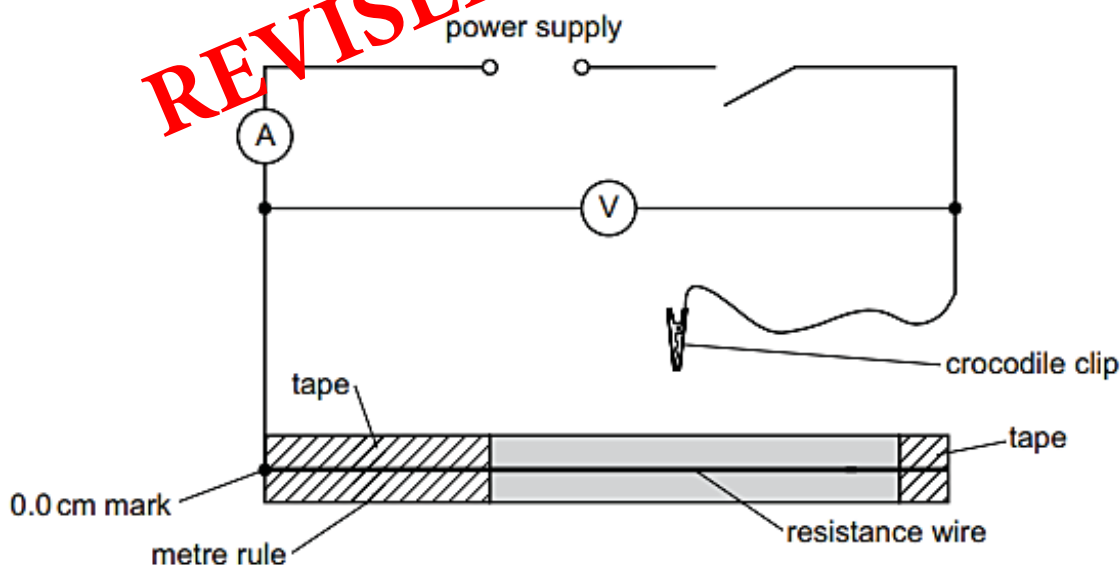

Fig. 42
- (vi) Sufficient connecting leads to set up the circuit shown in Fig. 42.
2. The circuit is to be set up for candidates as shown in Fig. 42, with the crocodile clip not connected to the wire.